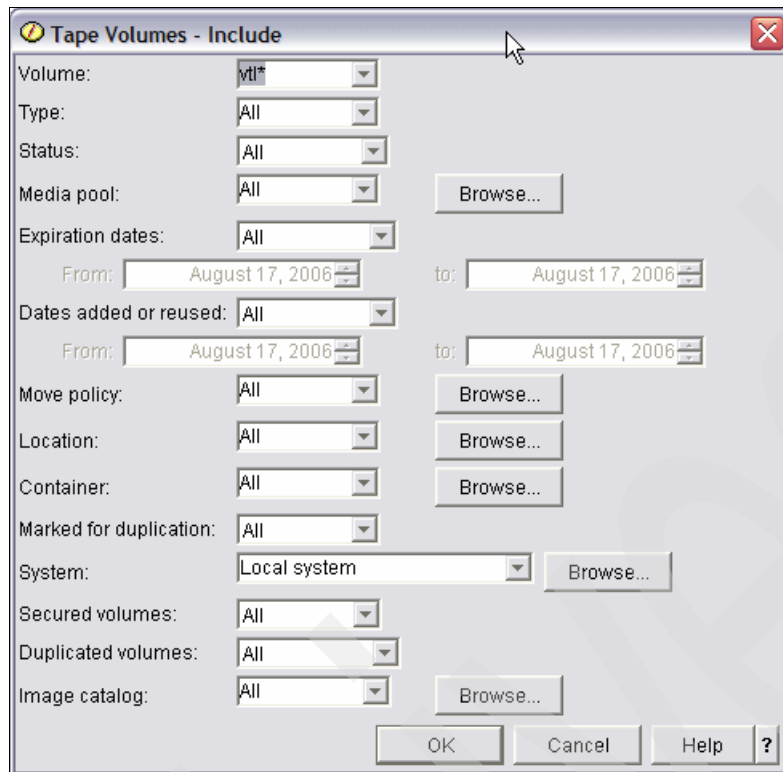

Figure 6-26 *Tape Volumes - Include*
2. You get a window like the one shown in Figure 6-26 to consider and perhaps change the information shown in the window.